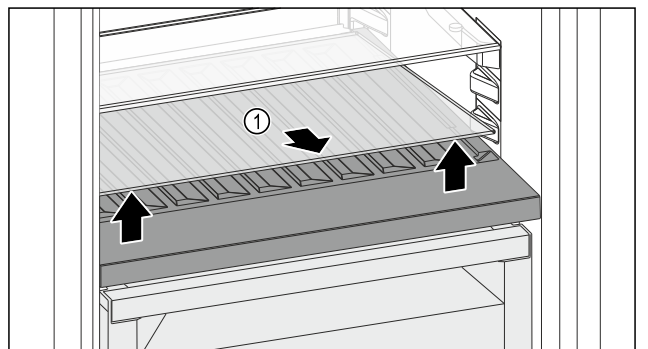

Fig. 142
- ▶ Lift the glass shelf Fig. 142 (1) at the front and remove.
- ▶ Store the glass shelf Fig. 142 (1) in a safe place outside the appliance.